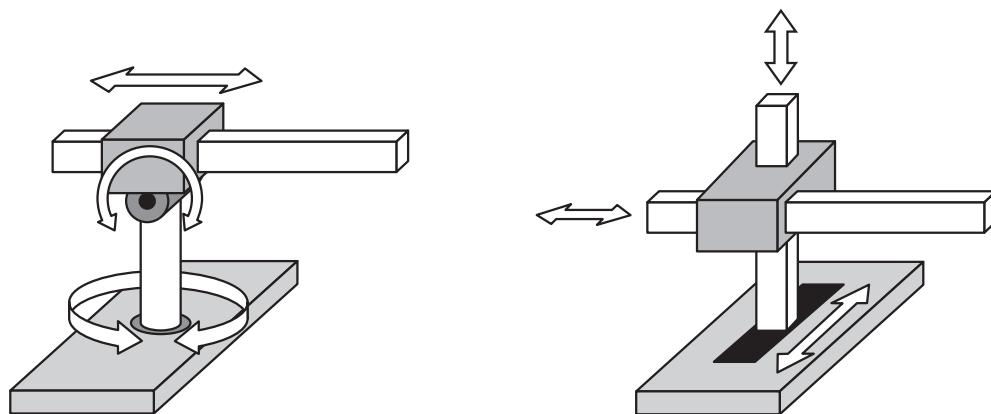

Figure Q4(a)
- (a) State the type of **each** robot in Figure Q4(a).